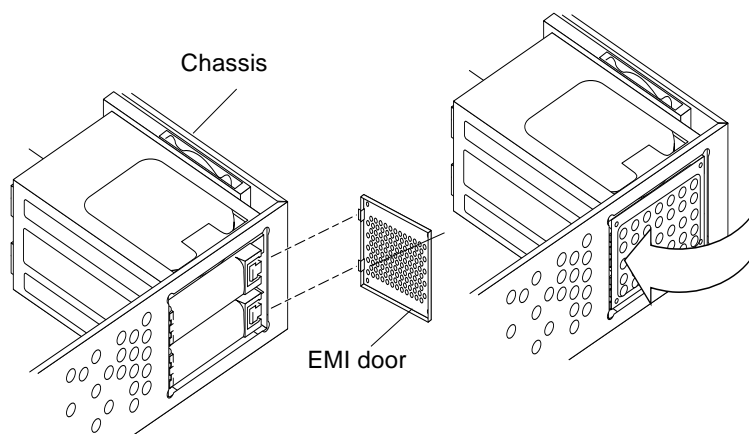

Figure 2-9 Replacing the EMI Door
- a. Position the EMI door on the chassis. The two tabs should be hooked into the two slots (Figure 2-9).